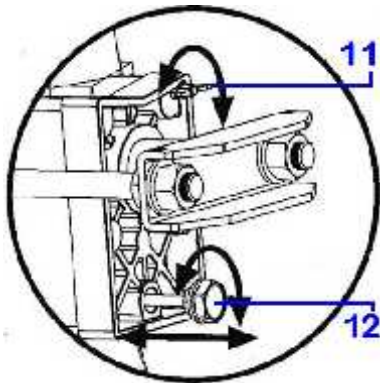

Fig.12
- Loosen the air bleed valve (11 in Fig.12) (oil tank cover) a few turns whenever the splitter is being used.